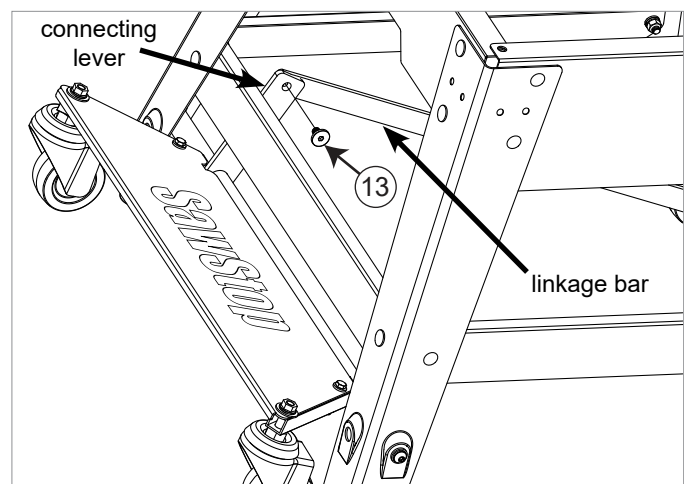

Fig. 10
10. Connect the other end of the linkage bar to the connecting lever on the caster support by inserting the M8 x 15.7 shoulder socket screw through the hole in the connecting lever so that the hole fits over the shoulder on the screw, and then threading the screw into the threaded hole in the linkage bar, as shown in Fig. 10. Fully tighten the shoulder socket screw with a 5 mm hex key.